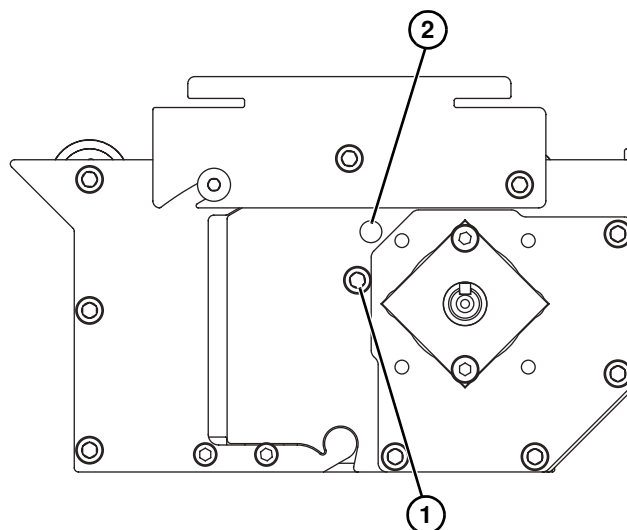

Figure 54
Please take note of the idler assembly locations. The center idler assembly uses the lower hole (**Figure 54, item 1**) for Micropitch conveyor belts (Types 01-02) and the upper holes (**Figure 54, item 2**) for Metalworking conveyor belts (Types 30-42).